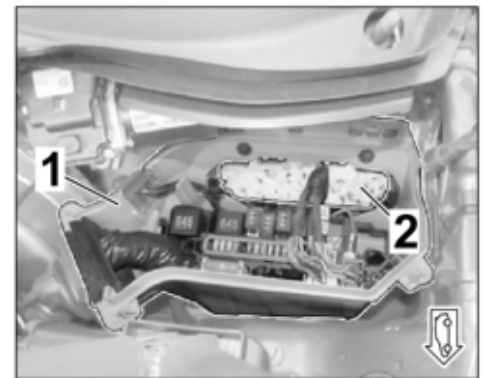

Figure 47
- 4.4.1 Install foam pads on bulkhead (⇒ *Figure 47 -2-*).
- 4.4.2 Installing fuse box cover (E-box) on cowl panel (⇒ *Figure 47*). ⇒ *Workshop Manual '978409 Loosening and securing fuse box'*